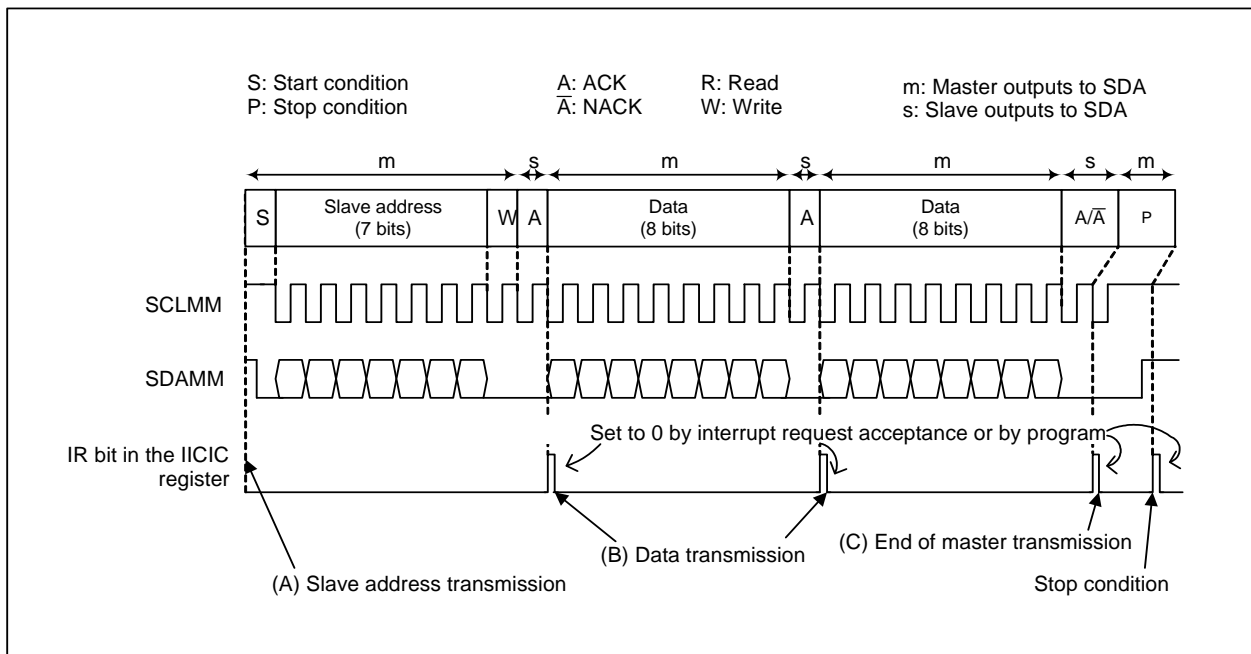

Figure 25.17 Example of Master Transmission
The master transmission is described in this section. The initial settings described in 25.3.10.1 "Initial Setting" are assumed to be completed. Figure 21.17 shows the operation of master transmission. The following programs (A) to (C) are executed at the (A) to (C) in Figure 25.17, respectively.